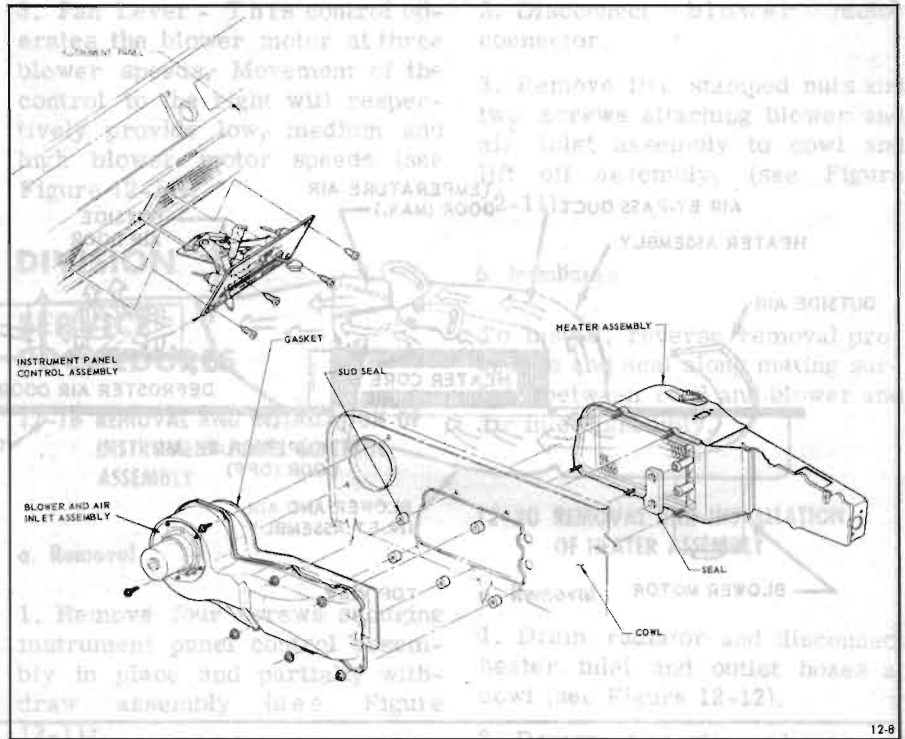

Figure 12-11—Heater System Installation
The heater system consists of three major assemblies: (1) a blower and air inlet assembly (see Figure 12-11) which contains the blower motor, (2) the heater assembly which houses the temperature door, the outside air door, and the heater core, (3) and instrument panel control assembly which regulates the opening and closing of the doors in the heater assembly.
1. Remove four screws securing instrument panel control assembly in place and partially withdraw assembly (see Figure 12-11).
3. Remove five stamped nuts and two screws attaching blower and air inlet assembly to cowl and lift off assembly, (see Figure 12-11).
2. Remove five stamped nuts securing heater assembly to cowl (see Figure 12-11).